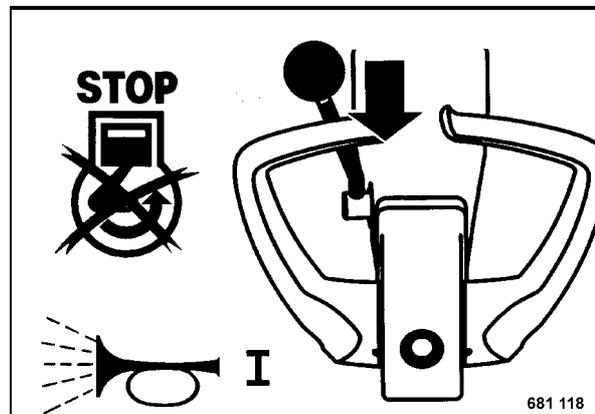

Fig. 35
- Set the throttle lever to position "STOP" (Fig. 35), the warning buzzer sounds.